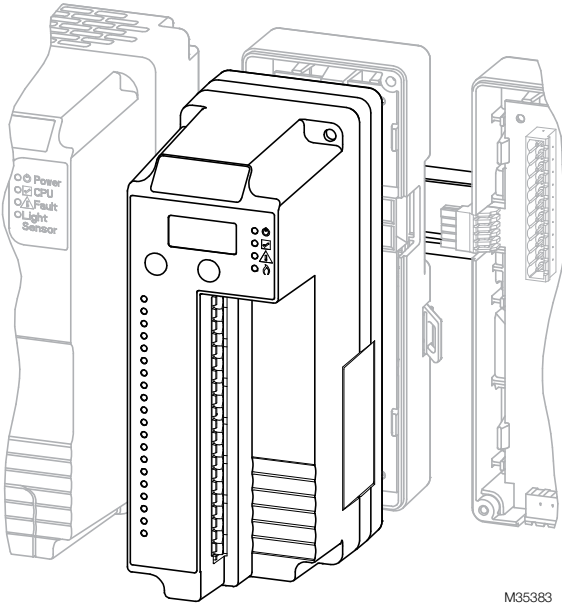

Fig. 2. Installing the Fuel Air Ratio Module on the Sub-Base Module.
**Mounting:** DIN Rail (See Fig. 2)